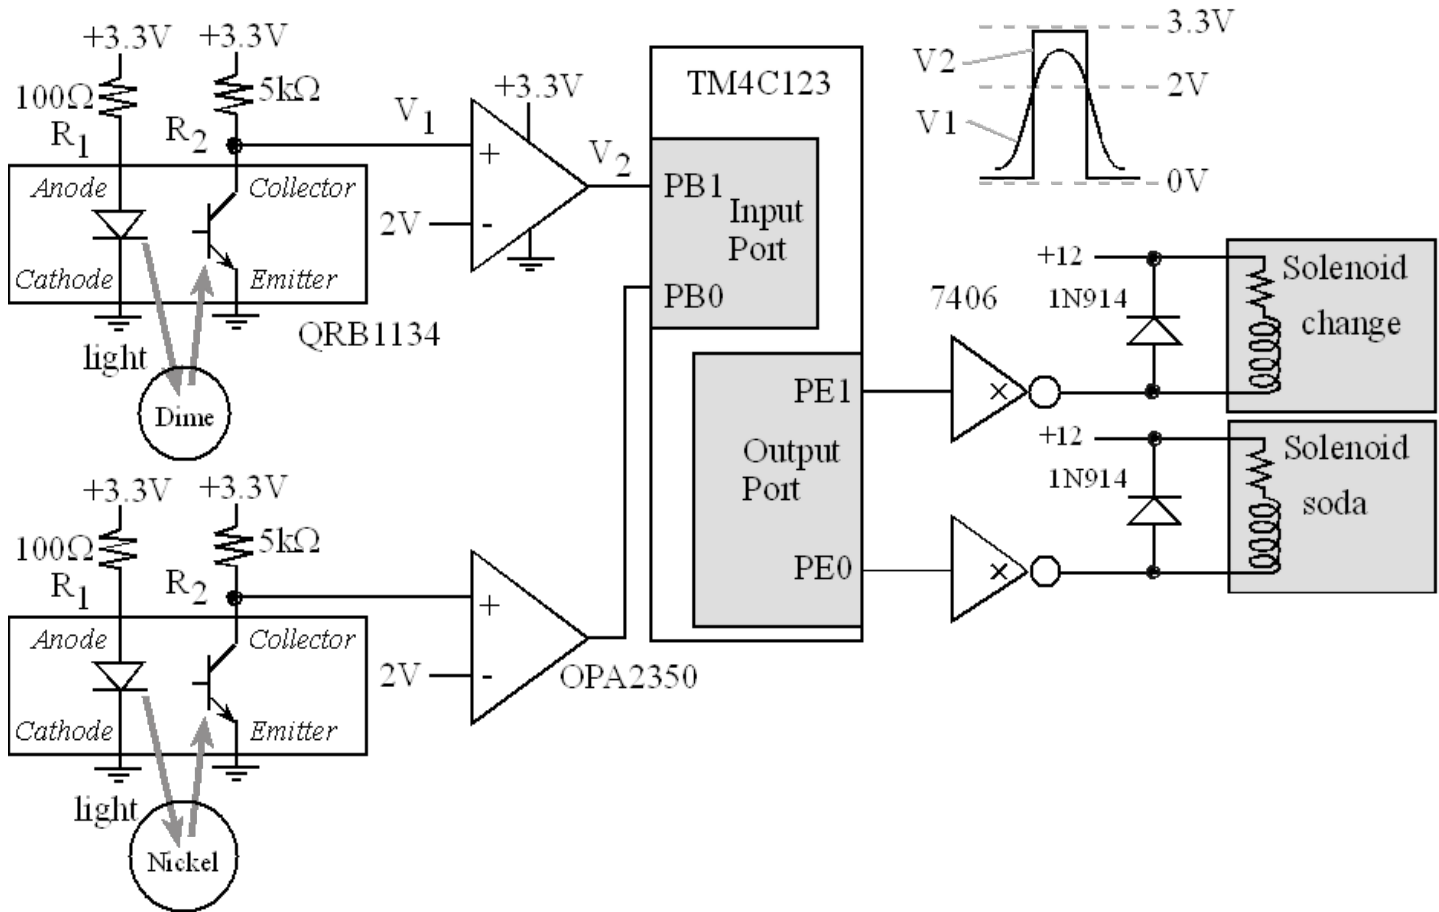
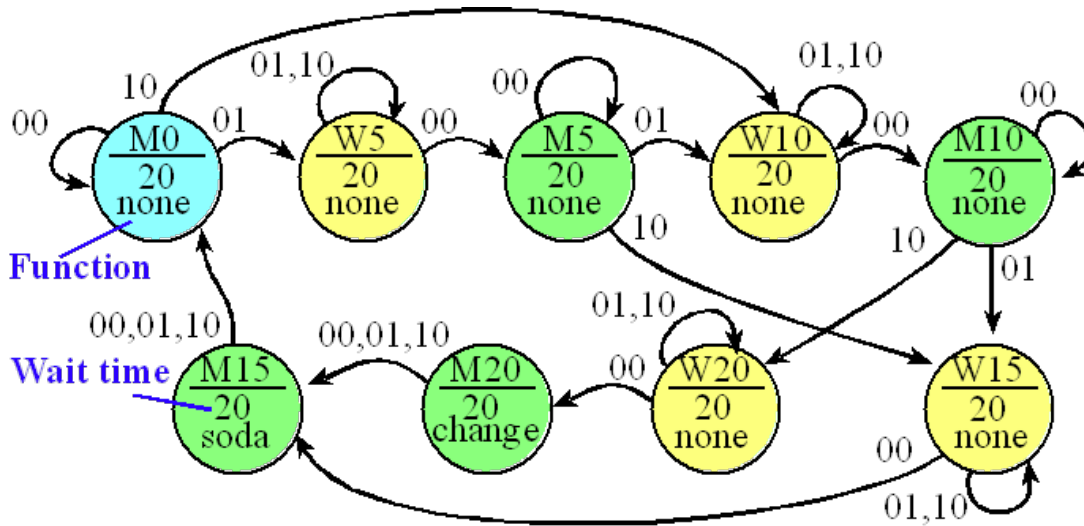

Figure 10.8. A vending machine interfaced to a microcontroller.
Figure 10.9. This Moore FSM implements a vending machine.
**Solution:** This vending machine example illustrates additional flexibility that we can build into our FSM implementations. In particular, rather than simple digital inputs, we will create an input function that returns the current values of the inputs. Similarly, rather than simple digital outputs, we will implement general functions for each state. We could have solved this particular vending machine using the approach in the previous example, but this approach provides an alternative mechanism when the input and/or output operations become complex. Our simple vending machine has two coin sensors, one for dimes and one for nickels, see Figure 10.8. When a coin falls through a slot in the front of the machine, light from the QEB1134 sensor reflects off the coin and is recognized back at the sensor. An op amp (OPA2350) creates a digital high at the Port B input whenever a coin is reflecting light. So as the coin passes the sensor, a pulse (V2) is created. The two coin sensors will be inputs to the FSM. If the digital input is high (1), this means there is a coin currently falling through the slot. When a coin is inserted into the machine, the sensor goes high, then low. Because of the nature
Figure 10.9 shows the Moore FSM that implements the vending machine. A soda costs 15 cents, and the machine accepts nickels (5 cents) and dimes (10 cents). We have an input sensor to detect nickels (bit 0) and an input sensor to detect dimes (bit 1.) We choose the wait time in each state to be 20ms, which is smaller than the time it takes the coin to pass by the sensor. Waiting in each state will debounce the sensor, preventing multiple counting of a single coin. Not to be confused with the FSM in Figure 10.8.
The initial state is defined as **M0**. Our controller software first calls the function for this state, waits for the specified amount of time, reads the sensor inputs from Port B, then switches to the next state depending on the input data. Notice again the 1-to-1 correspondence between the state graph in Figure 10.9 and the data structure in Program 10.6.